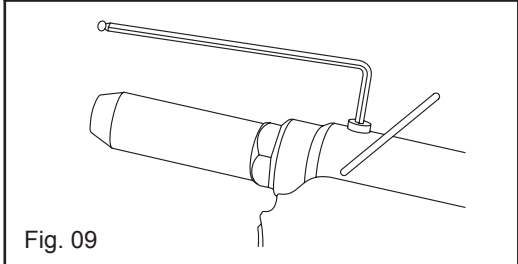

Fig. 09
7. Place the air riveter upright. Unscrew the bolt of the filler hole with the 3mm Allen key (Fig. 09). Check the seal washer for damages
11. Only close the filler hole with 3mm Allen key until no hydraulic oil is leaking (Fig. 09). Remove excess hydraulic oil around the filler hole.